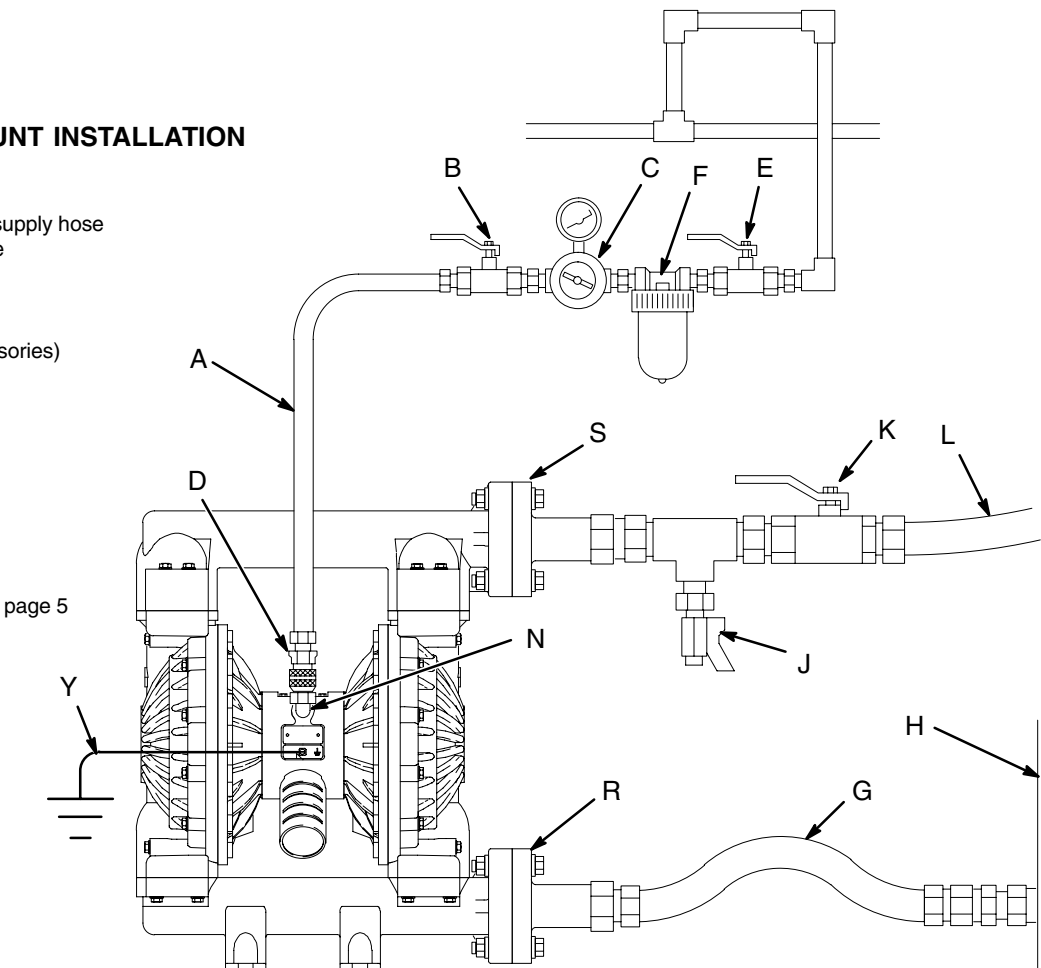

Fig. 2
- The Typical Installation shown in Fig. 2 is only a guide for selecting and installing system components. Contact your Graco distributor or Graco Technical Assistance (see back page) for assistance in planning a system to suit your needs.
A bleed-type master air valve (B) is required in your system to relieve air trapped between this valve and the pump. Trapped air can cause the pump to cycle unexpectedly, which could result in serious injury, including splashing in the eyes or on the skin, injury from moving parts, or contamination from hazardous fluids. See Fig. 2.
1. Install the air line accessories as shown in Fig. 2. Mount these accessories on the wall or on a bracket. Be sure the air line supplying the accessories is electrically conductive.
- a. Install an air regulator (C) and gauge to control the fluid pressure. The fluid outlet pressure will be the same as the setting of the air regulator.
- b. Locate one bleed-type master air valve (B) close to the pump and use it to relieve trapped air. See the **WARNING** at left. Locate the other master air valve (E) upstream from all air line accessories and use it to isolate them during cleaning and repair.
- c. The air line filter (F) removes harmful dirt and moisture from the compressed air supply.
2. Install an electrically conductive, flexible air hose (A) between the accessories and the 1/2 npt(f) pump air inlet (N). See Fig. 2. Use a minimum 1/2" (13 mm) ID air hose.
3. Screw an air line quick disconnect coupler (D) onto the end of the air hose (A); be sure the coupler porting is large enough to not restrict the air flow, which will affect pump performance. Screw the mating fitting into the pump air inlet snugly. Do not connect the coupler (D) to the fitting until you are ready to operate the pump.
### KEY FOR FIG. 2
A fluid drain valve (J) is required to relieve pressure in the hose if it is plugged. The drain valve reduces the risk of serious injury, including splashing in the eyes or on the skin, or contamination from hazardous fluids when relieving pressure. Install the valve close to the pump fluid outlet. See Fig. 2.
1. The pump fluid outlet (S) is a 2" raised face flange. Refer to **Flange Connections** on page 8.
2. Install a fluid drain valve (J) near the fluid outlet. See the **WARNING** above.
3. Install a shutoff valve (K) in the fluid outlet line.